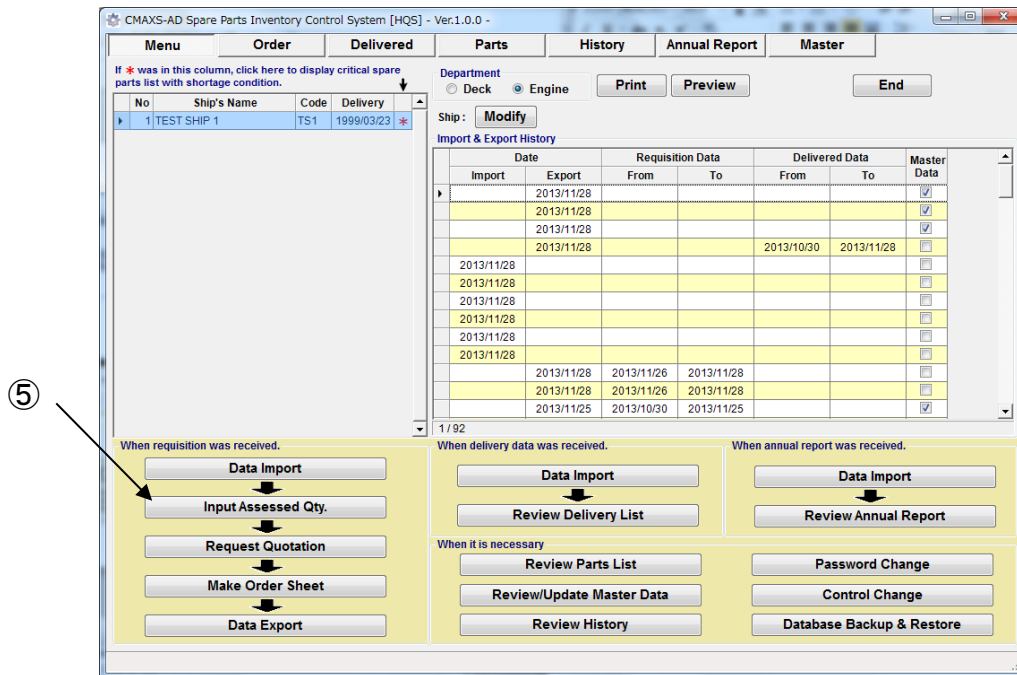

Fig.6-4 Menu Screen
- (5) On the "Menu Screen"(Fig.6-4), select [Input Assessed Qty].